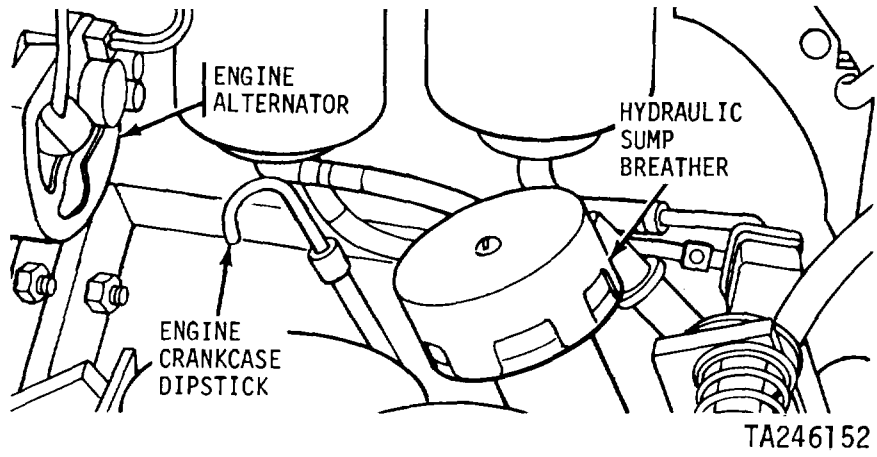

Figure 3-1. Engine Crankcase Dipstick Location
| 3        | •        |   |   |   |   | <p>ENGINE OIL LEVEL (fig. 3-1)</p> <p>Check oil dipstick, add oil, if needed, to raise level to the full (F) mark.</p>   |  |
(1) To check the engine oil level, unlatch and swing out the right engine side panel and swing out the battery tray. Use the dipstick (fig. 3-1) to check the engine oil level. To add oil, remove the engine oil filler cap and pour oil as required into the filler opening. Check oil level frequently, since oil consumption may increase.
(2) The oil may require changing more frequently than usual because of contamination by dilution and increased sludge formation under cold weather operation conditions.